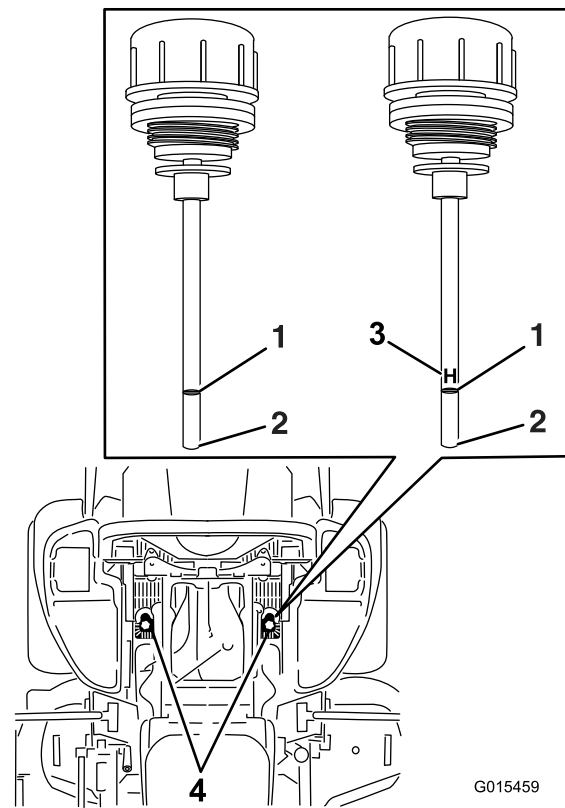

Figure 81
6. Clean the area around the dipsticks of hydraulic system reservoirs (Figure 81).
7. Remove one dipstick from the hydraulic reservoir (Figure 81).
9. Remove the dipstick and look at the end (Figure 81). If the oil level is at the add mark, slowly pour only enough oil into the hydraulic reservoir to raise the level to the full or H line.